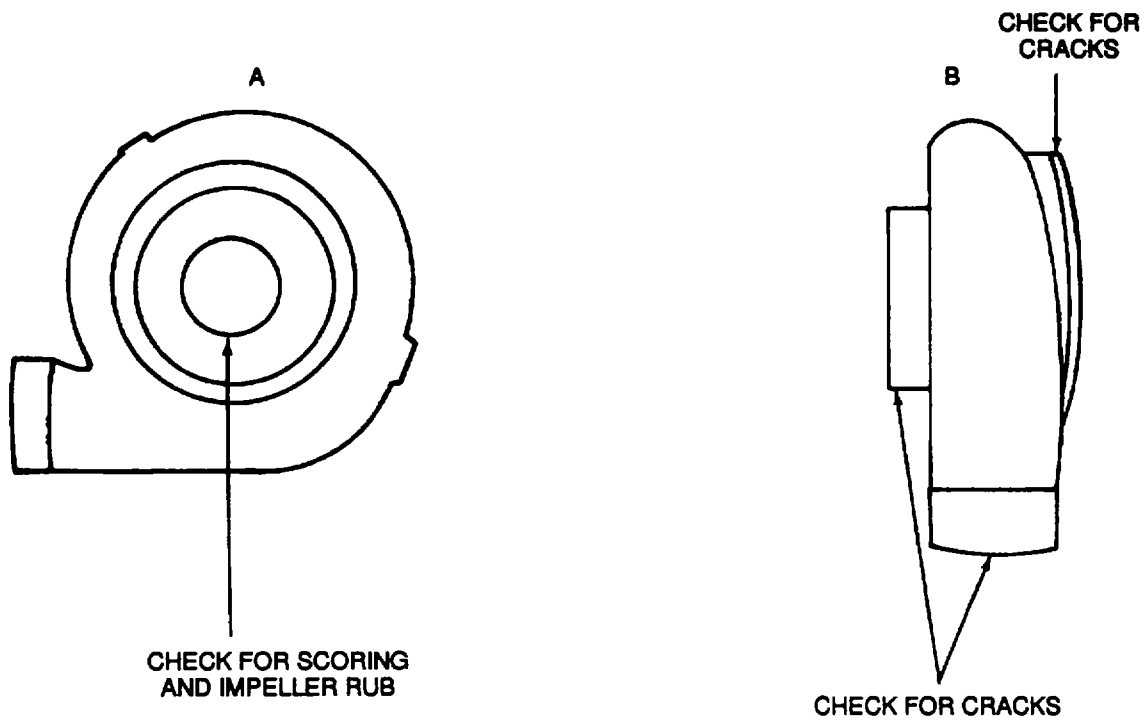

Figure 9-71.
- (2) Check all threaded fasteners and holes for damaged or stripped threads. Replace stripped capscrews. Repair stripped holes in accordance with paragraph 2-12. Check the prevailing torque of the locknuts in accordance with Table 1-3. Replace locknuts that are below the minimum prevailing torque.
- (3) Inspect the clamps (6) for bending, distortion, and cracks. Replace defective clamps.
- (4) Check the compressor housing contour areas for scoring, grooving, and signs of impeller rub, and rust (A, Figure 9-71). Check the mounting flanges (B, Figure 9-71) for cracks.